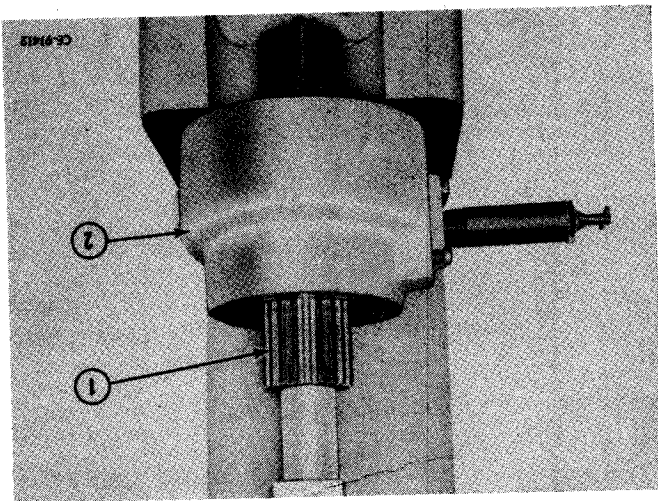

Figure 5-24
Bearing cone (1, Fig. 5-24) will come out with shaft. Using a flat head drift, drive bearing cup (2) from housing.